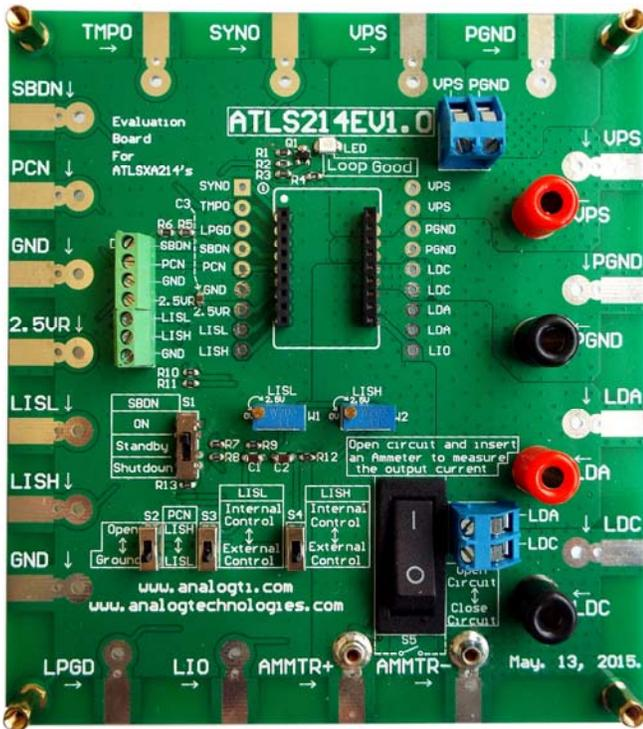
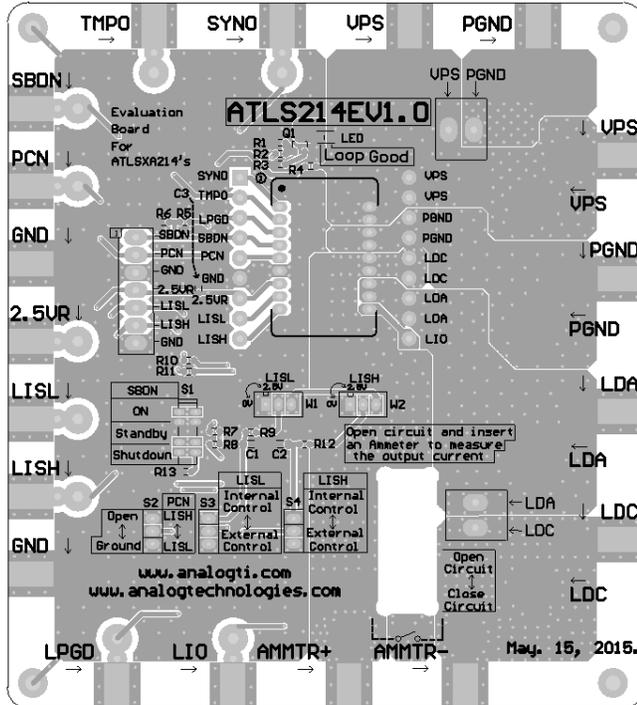
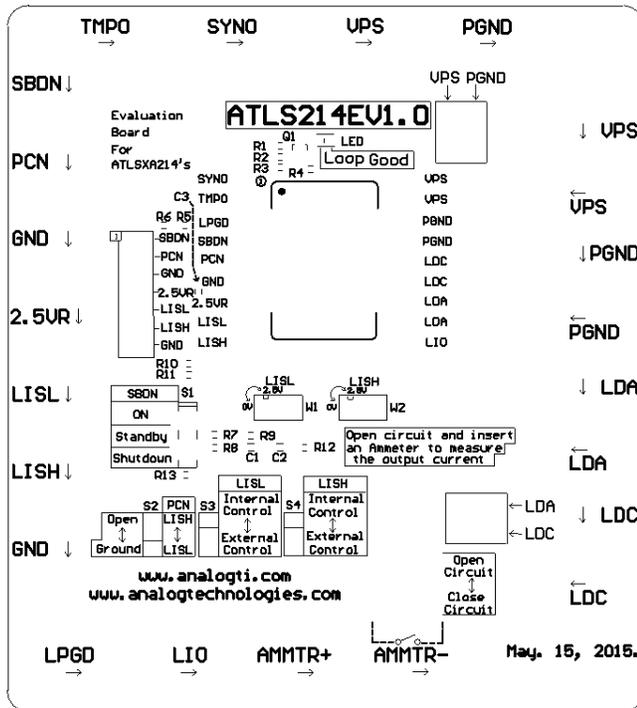

Figure 1. Physical Photo of ATLS214EV1.0
Figure 2. Top Silkscreen Layer with Other Top Layers
Figure 3. Top Silkscreen
This evaluation board is shown in Figure 1. On the 4 edges of the board, it features solder pads for all the interface ports provided by the laser driver. The solder pads can be used by clips or soldered with wires for connecting to external circuits. The power supply input is connected on the upper edge of the board. The incoming wires can be soldered on the pads, or clipped by alligator clips, or use the terminal block and tight the wires by the screws. In the upper middle of the board, there is an LED. When the controller works properly, it will be lit up. On the left side of the controller, there is a terminal block. It can be used for connecting wires going into the ports of the laser driver. On the lower side of
the laser driver, there are 2 POTs (Potentiometers) for setting the lower and upper values of the set-point current. When the laser driver uses these POTs for setting the current values, push down the 2 switches below the POTs, see Figure 1 and Figure 2; when using external signals to modulate the laser driver output current, leave the 2 switch knobs onto the upper position, as marked on the board. The lower left corner switch is for selection which of the control ports is used for setting the laser driver current: LISL or LISH. The output current can be measured by a current meter, which can be inserted between the 2 multi-meter lead sockets: AMMTR+ and AMMTR-, which is located on the lower edge of the board. When an Ammeter is inserted into the circuit, turn switch S5 onto the upper position, the open circuit the meter leads, so that the current will go through the meter, thus the current will be measured. When the Ammeter is absent, turn the switch S5 down, to short circuit the current meter terminals so that the current will go through the switch to close the circuit.
The silkscreen layer of the evaluation board is shown in Figure 2 with other top layers, including top silkscreen, top copper, top solder mask, and multilayer (vias). Figure 3 shows the image of top silkscreen layer only.
1. Hook up the power supply. There are 2 solder pads in the upper right area on the edge for connecting the power supply. The connection can be done by clipping or soldering on the pads, or locking in 2 wires through the terminal block 2TB by tightening the 2 screws, see Figure 1. The power supply can set to between 4.5V and 16V. When using a lower voltage power supply, the power consumption of the driver will get smaller, thus, the driver will be working at higher efficiency. But the voltage has to be at least 1V higher than the laser diode forward voltage value, otherwise, the output current is out of control by the laser driver.